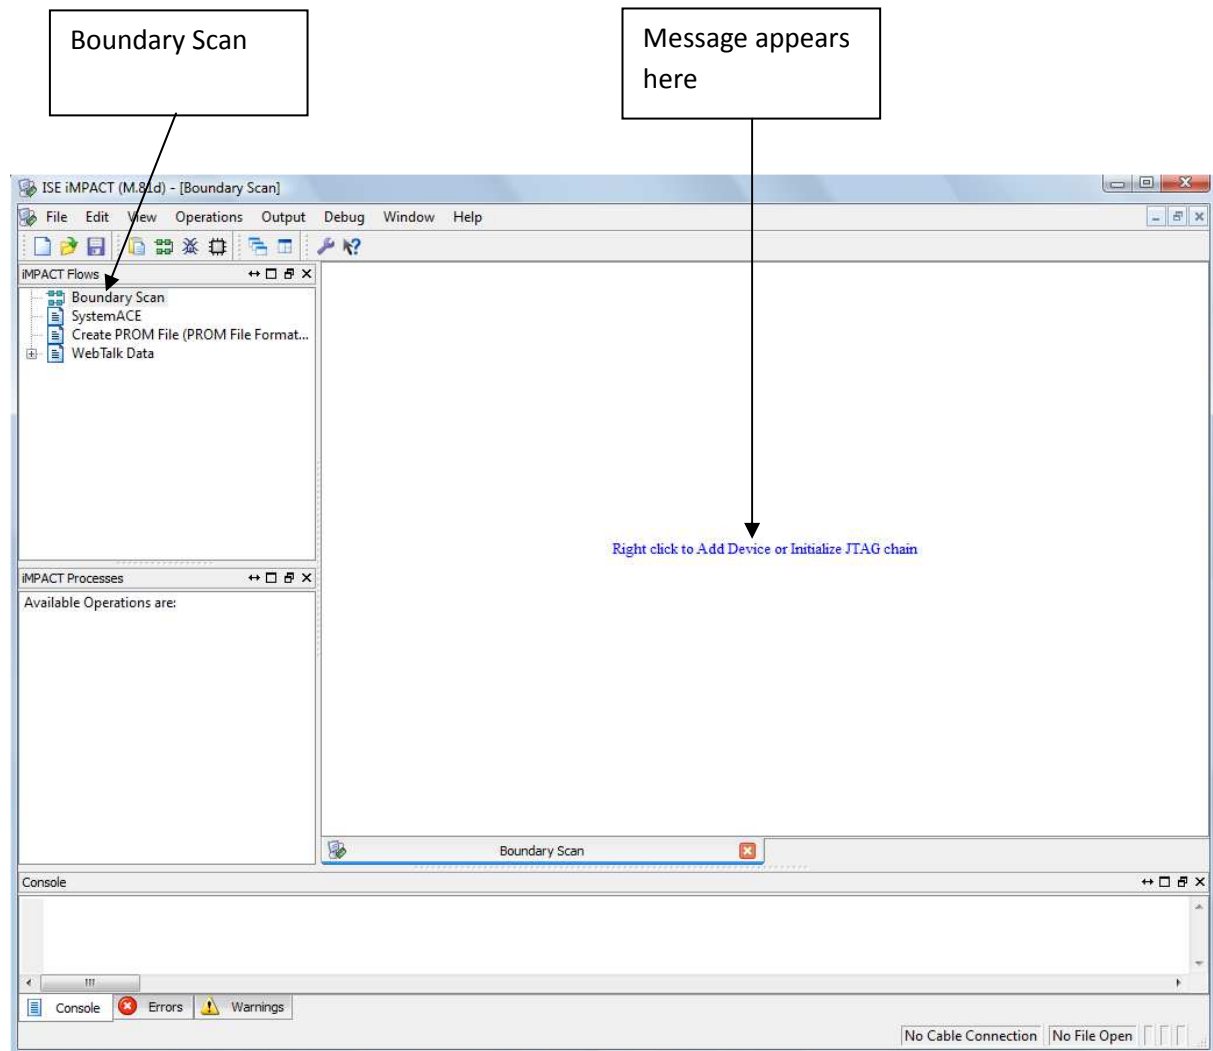

Figure 5.39: iMPACT window, after double-clicking on Boundary Scan.
5. Double-click on Boundary Scan as shown in Figure 5.39. The message “Right click to Add Device or Initialize JTAG Chain” should appear to the right.